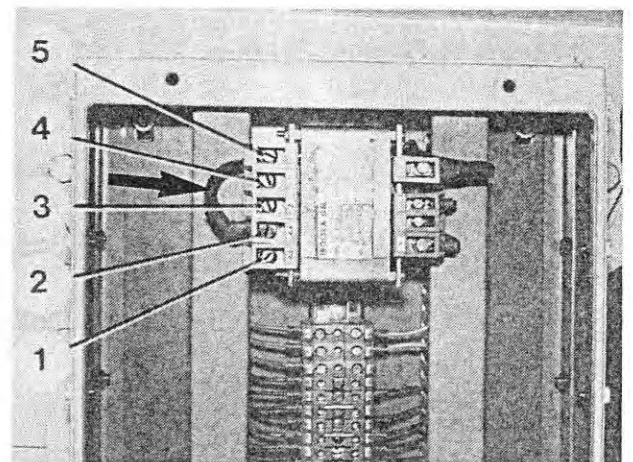

Fig. 238
3. Disconnect the electric line (Figure 238/arrow) from the transformer terminal and connect it on a terminal with the appropriate voltage.
(Figure 238/1)	1.3 V
(Figure 238/2)	1.6 V
(Figure 238/3)	2.0 V
(Figure 238/4)	2.4 V
(Figure 238/5)	2.8 V